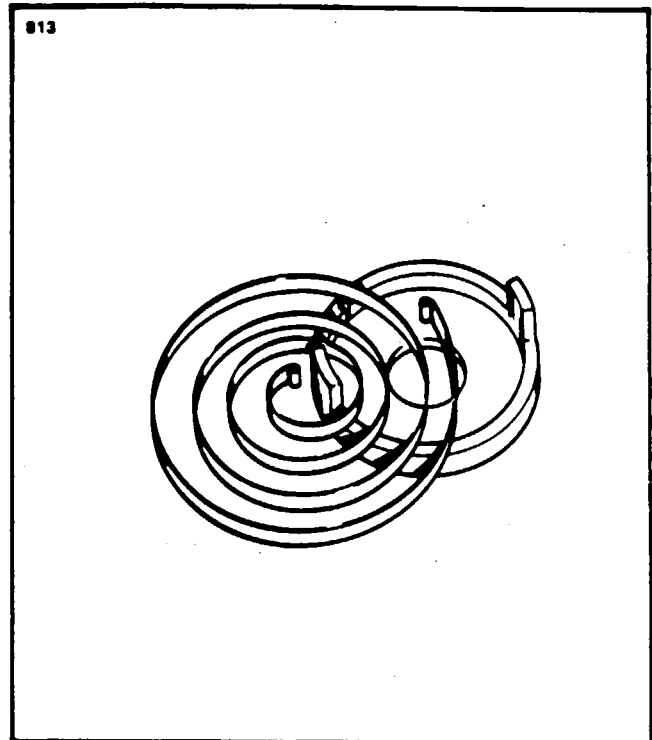

Figure 74-18. Orientation of Spring in Coupling Body
4. Orient the spring with the body for correct rotation. On clockwise couplings, the spring must coil in a clockwise direction from the outside toward the center when viewed from the spring recess side of the body. (Refer to Figure 74-18.) Insert eye of outer end of spring into hole drilled in inner rim of body.